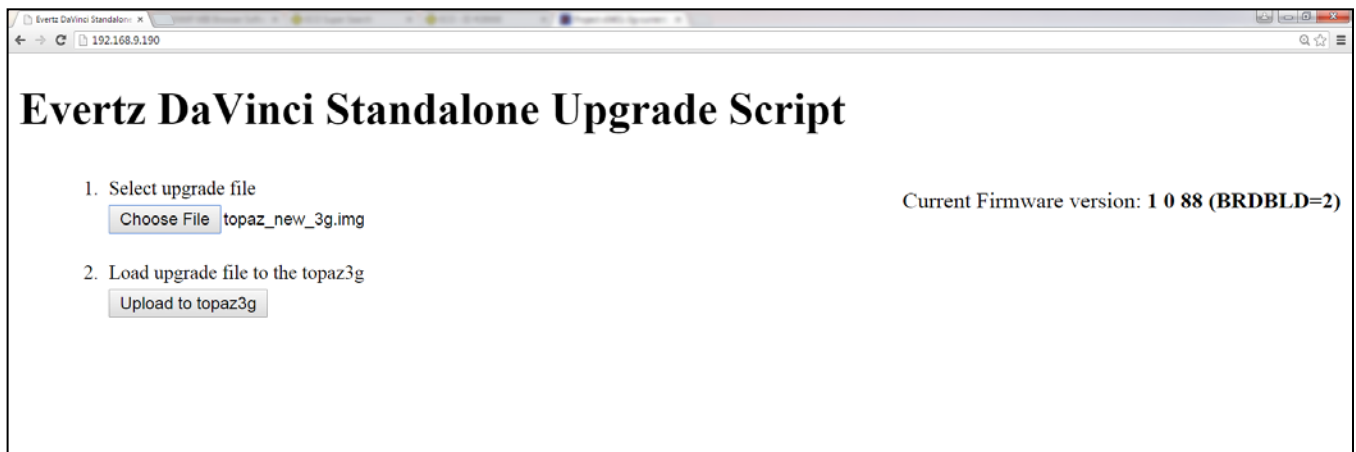

Figure 7-2: Upload Screen
2. Using the *Browse...* button, select the new file that should be saved on your computer. This file should have an extension of *.img*. Once a file has been selected, a button to upload the file to the EQT will appear below, as show in Figure 7-2.